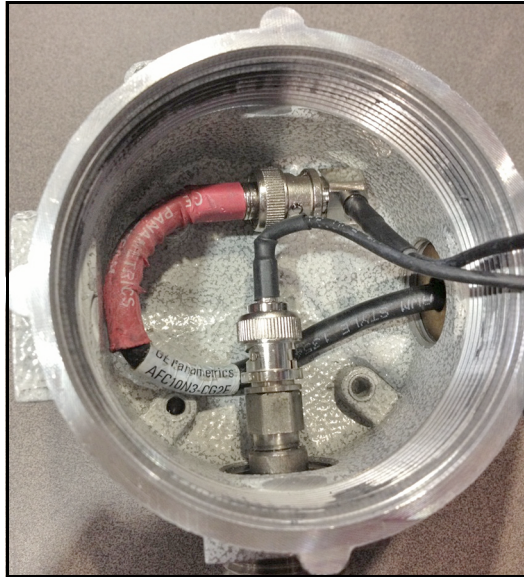

Figure 21: BNC Heads
8. Wrap the extra length of cable around the inside of the junction box such that the BNC heads do not rest on other cables or on each other. The assembly should now look like *Figure 21* below.